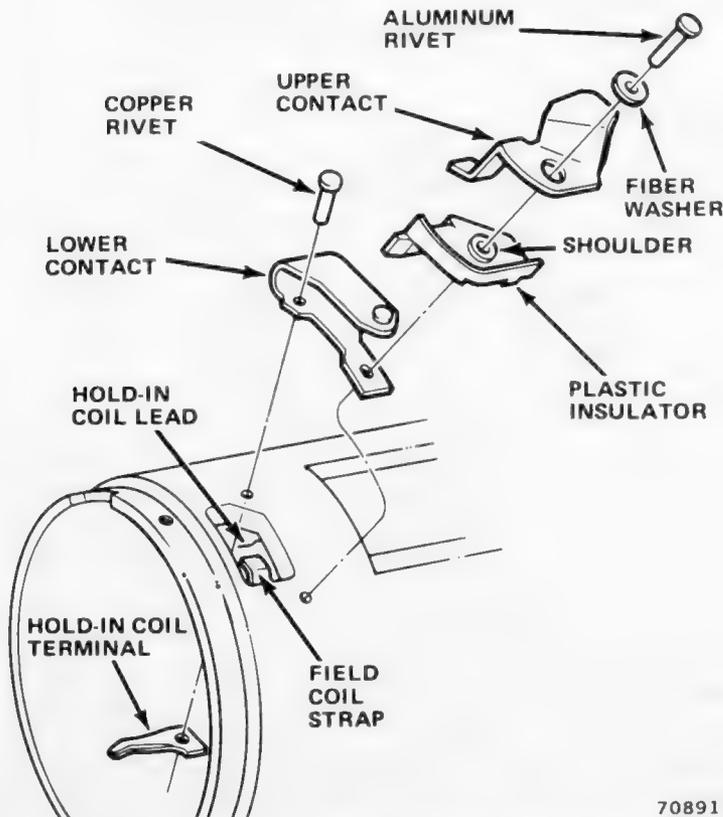

Fig. 1F-15 Solenoid Contact Replacement
- (2) Unsolder hold-in coil lead from terminal strip.
- (3) Remove field coil screws using arbor press and tool J-22516.
- (4) Cut rivets inside frame with chisel. Remove contact assembly.
- (5) Position replacement lower (movable) contact on frame (fig. 1F-15). Position hold-in coil terminal strip inside frame. Install copper rivet through contact, frame and terminal. Upset rivet.